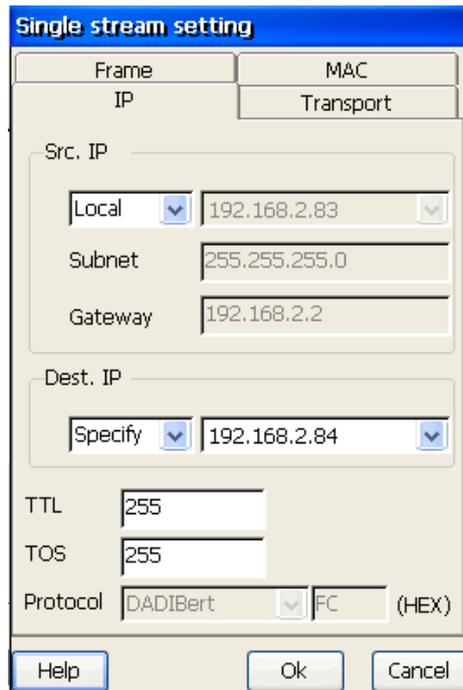

Figure 6.2.4 IP Layer Parameters Setting
1. IP Layer is selected in Step5, so switch to IP Layer tab to set IP parameters. As shown in figure 6.2.4.